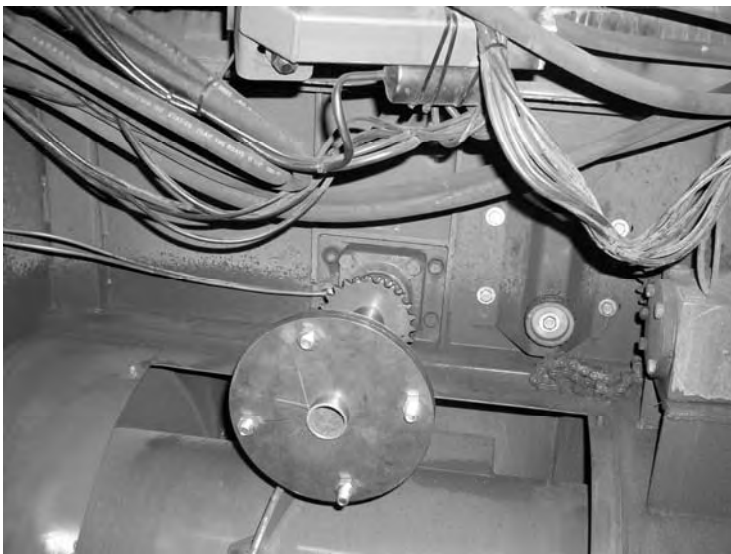

Figure 4
5. Bolt transmission mounting plate (part # 510188) to transmission mounting jig assembly (part # 510190) Slide jig and mount assembly onto the end of the threshing cylinder shaft until jig stops at shoulder on the inside of the jig this will make the front of the transmission mounting plate 8-1/2" from the end of the threshing cylinder shaft. Start with the mounting jigs four bolt holes at 12, 3, 6, and 9 o'clock positions. Now rotate the assembly counterclockwise 20°. (As viewed from the front of the combine looking back). (Figure 4)